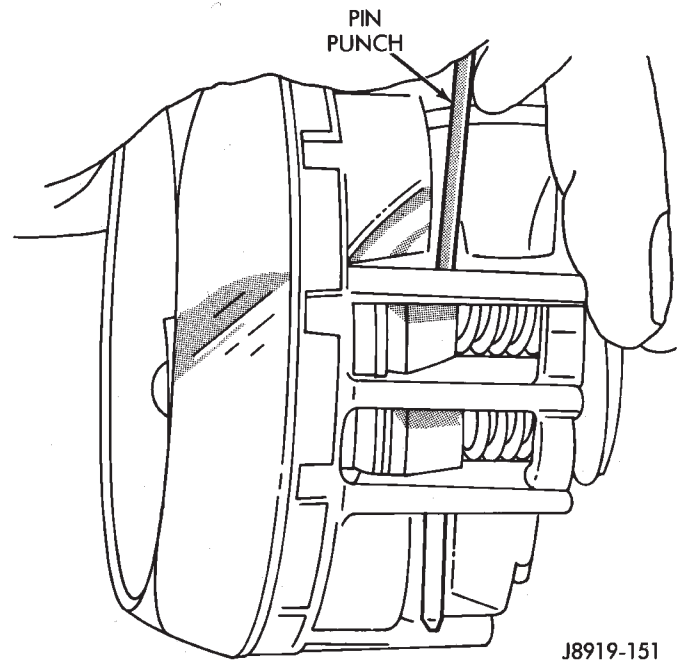

Fig. 15 Lock Shoe Pin Removal
(35) Remove the lock shoe pin from the key/lock cylinder housing with a standard pin punch (Fig. 15). Remove the lock shoes, the springs and wedge.